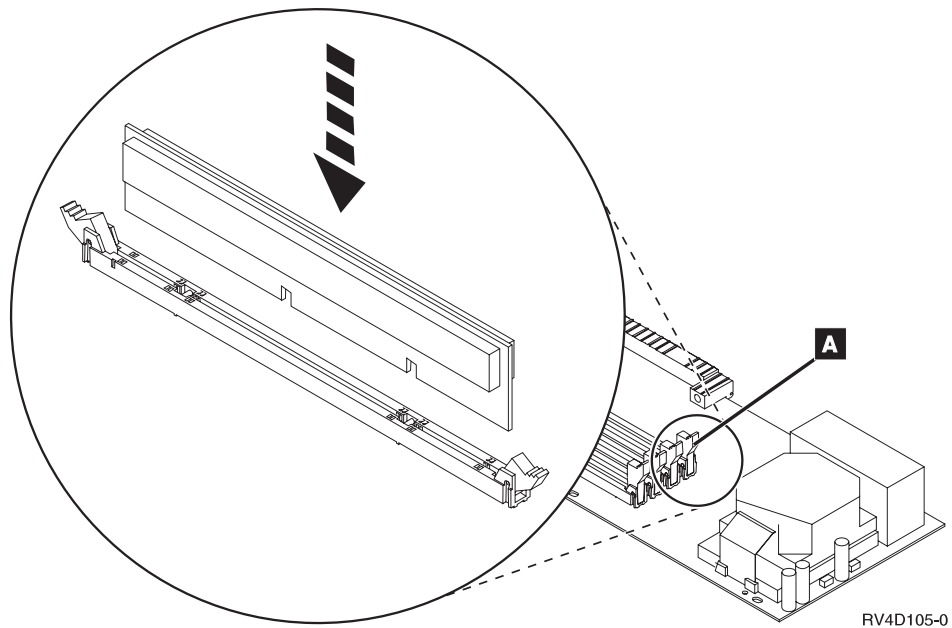

Figure 4. Location of Memory on Server Card
Note: Figure 4 **A** shows the location of the first storage card.
- a. Align the memory cards with the next available connector on the 285x or 2866 Server card, (Figure 4).